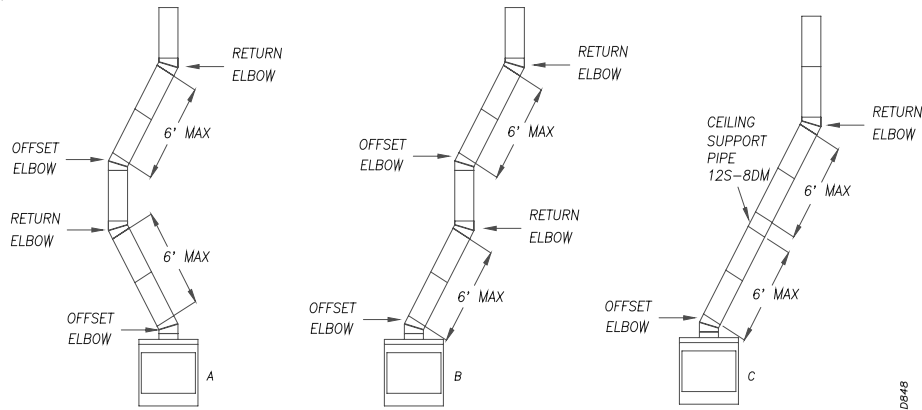

Figure 7 *TYPICAL OFFSET INSTALLATION
- To achieve desired offset, you may install combinations of 12", 18", 24", 36" and 48" length of double wall pipe (SEE SINGLE OFFSET CHART AND FIGURE 7).
- Maximum length of pipe between supports (return elbow or 12S-8DM) is 6' of angle run. Maximum of two (2) 6' angle run sections per chimney system (see figure 7).